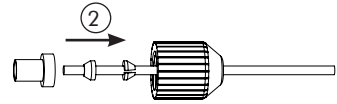

Fig. 19.1
2. Connect the 3.2 mm PTFE ferrule connector assemblies as shown in the Fig. 19.1 to the drain tube of the randall condenser and the manifold. Make the connection to the subsequent position of the manifold.